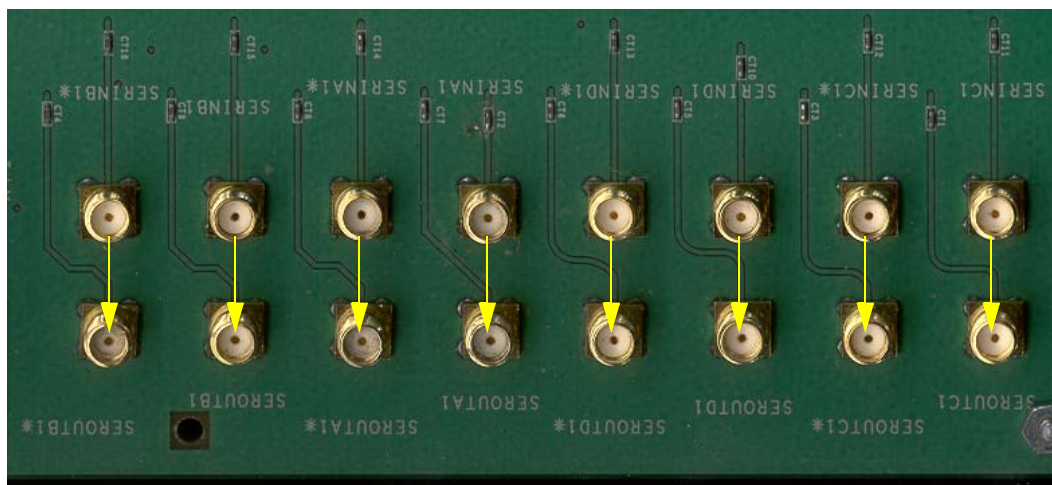

Figure 15. Coaxial Cable Connection for External BIST Mode
1. Before performing the test, loop a coaxial cable from INx1± to OUTx1± as shown in *Figure 15*.